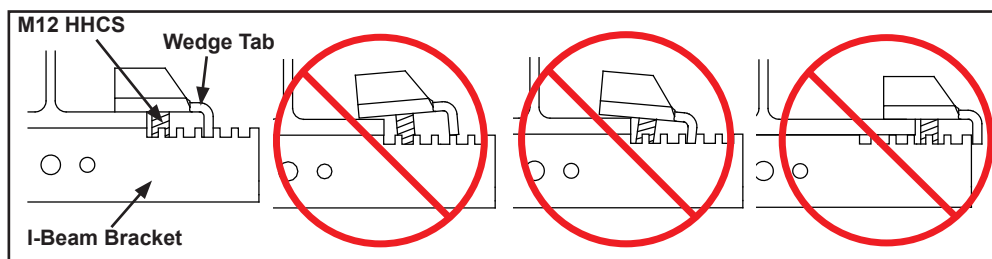

Figure 3-50A
- Step 8. Slide wedge tabs in toward web of beam until two (2) M12 x 100 mm HHCS contact I-Beam flange sides. See Figure 3-50A below.